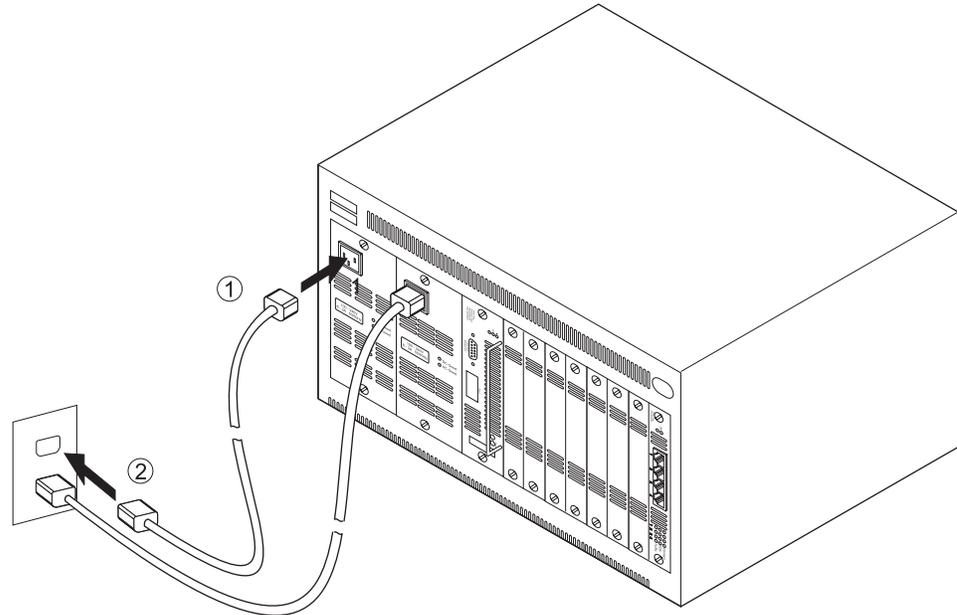

Figure 2-16. Powering On the 8270-800
- Step 1.** If the 8270-800 has two power supplies, two line cords must be connected; one for each supply. See Figure 2-16.